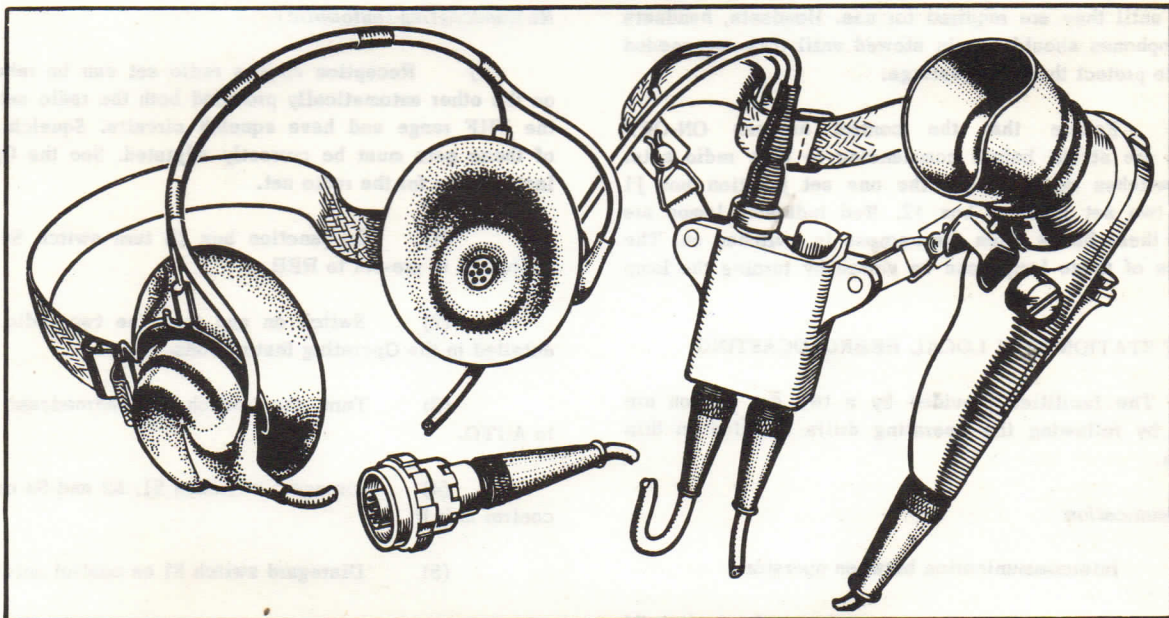
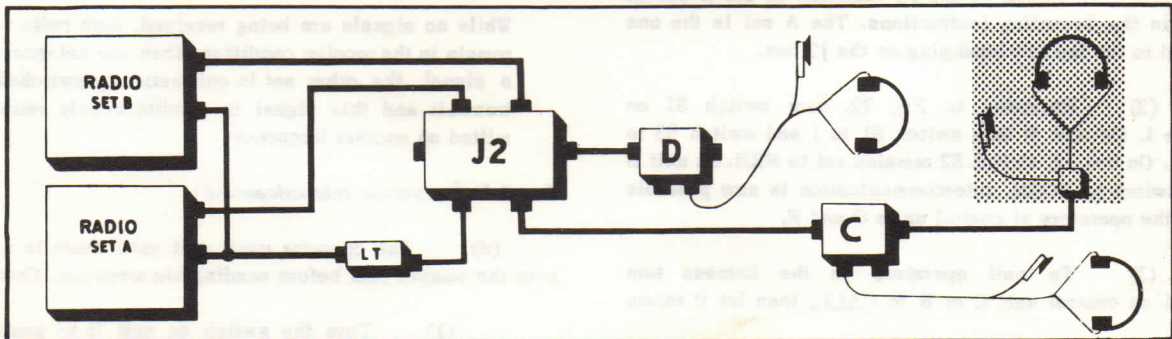

FIG 20 COMMANDER'S HEADSET
FIG 21 COMMANDER'S HEADSET IN A TWO SET STATION
19. A Commander's headset is illustrated in Fig 20. Fig 21 shows this headset connected to a control unit C. It may also be connected to the unit D, or directly to the 12 contact control unit socket on a junction box J2. A complete headset consists of a hand microphone, neckband snatch harness, and a receiver headgear. The microphone is fitted with a set selector switch and a transmit-receive pressel switch. A webbing neckband supports a small junction box incorporating a gain control and a snatch plug. A 30 foot extension lead gives the commander freedom of movement.